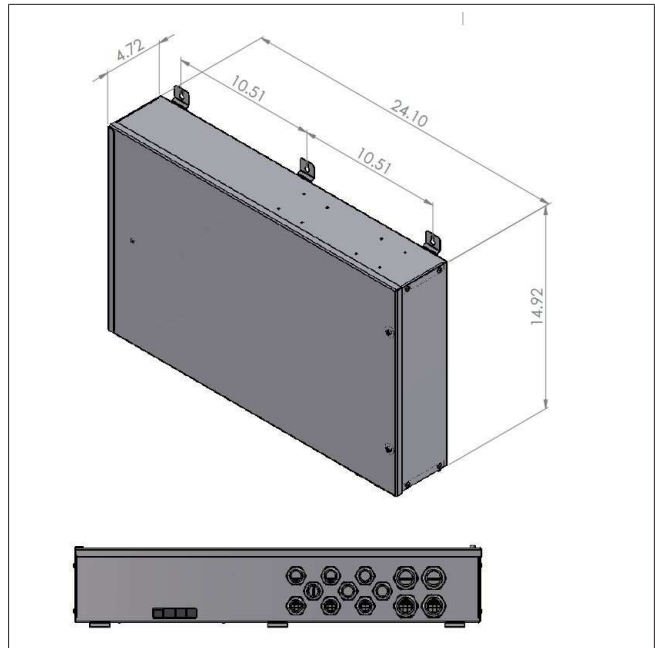

Fig. 14 Dimensions (in.) electrical box 2 and 4 stages
- For 2 to 4 stages: See Fig. 14.